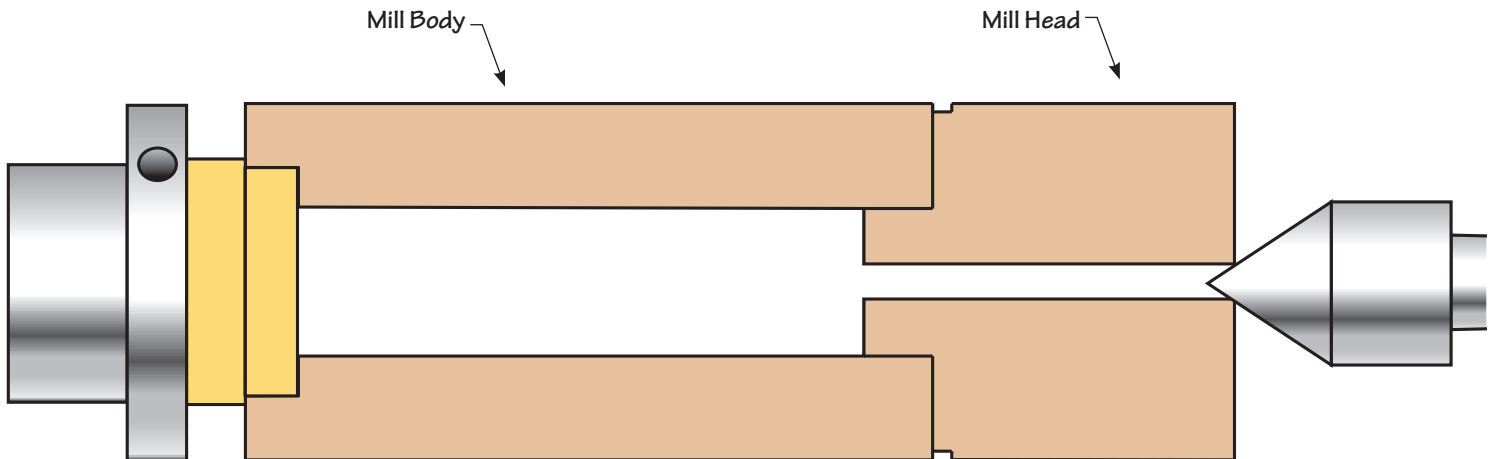

Figure. 3
3. Put the Mill Head spigot into the Mill Body and mount the Mill onto the drive tenon and bring the revolving center into the 1-1/16" dia. hole for support. (See Figure. 3)